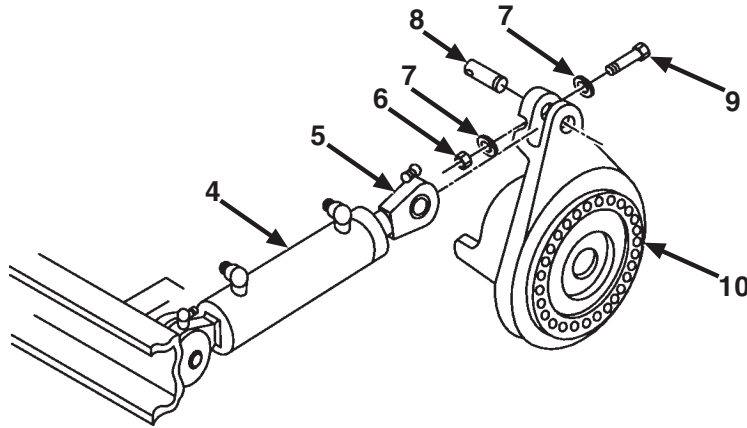

Figure 69. Rear Fuel Tank Strap.
Step 2 applies to Figure 69.
- Remove screw (item 9), washers (item 7), and locknut (item 6), and pin (item 8) and disconnect rod end (item 5) of hydraulic track adjusting cylinder (item 4) from final drive adjusting flange (item 10).